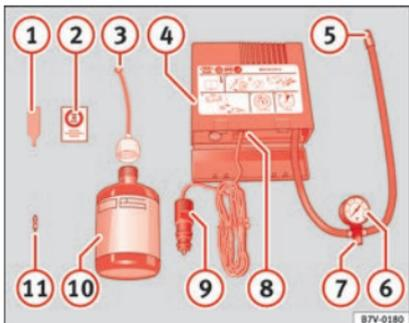

Fig. 67 Standard representation: contents of the anti-puncture kit.
- Unscrew the tyre valve cap and insert. Use the » Fig. 67 ① tool to remove the insert. Place it on a clean surface.
- Shake the tyre sealant bottle vigorously » Fig. 67 ⑩.
- Screw the inflator tube » Fig. 67 ③ into the sealant bottle. The bottle's seal will break automatically.
- Remove the lid from the filling tube » Fig. 67 ③ and screw the open end of the tube into the tyre valve.
- Place the insert back into the tyre valve using the tool » Fig. 67 ①.
- Screw the compressor tyre inflator tube » Fig. 67 ⑤ into the tyre valve.
- Check that the air bleed screw is closed » Fig. 67 ⑦.
- Insert the connector » Fig. 67 ⑨ into the vehicle's 12-volt socket » page 154.
- Turn the air compressor on with the ON/OFF switch » Fig. 67 ⑧.